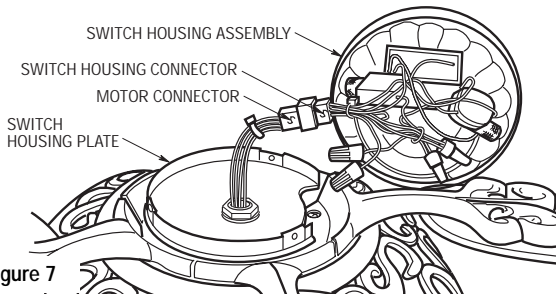

Figure 7
- 11. Engage the connector of the switch housing assembly with the motor connector (Figure 7). The two connectors are keyed and color-coded and must be mated correctly (color-to-color) before they can be engaged. Make sure the connectors close properly.